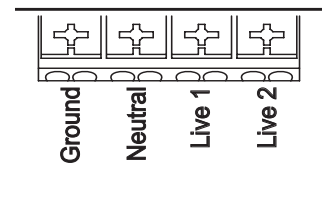

Figure 9: Power terminals
8. See Figure 9. The power terminals block has three terminals labelled **Ground**, **Neutral**, **Live 1** and **Live 2**. Connect the power cable as follows: